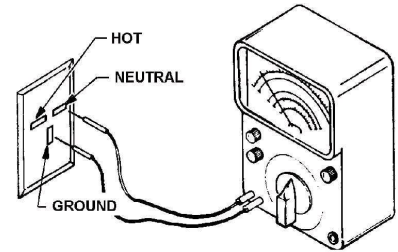

Figure 1. 230 Volt Outlet
1. **Voltage Check:** With a Volt-Meter set to check AC line voltage, insert one connector to the Hot terminal and the other connector to the **NEUTRAL** terminal. The voltmeter should indicate 207 to 253 Volts AC. See Figure 1.
2. **Polarity and Ground Check:** With a Volt-Meter set to check AC line voltage, insert one connector to the HOT terminal and the other connector to the **GROUND** terminal. The voltmeter should indicate 207 to 253 Volts AC. See Figure 1.
NOTE The GROUND pin is the slot that is positioned perpendicular to the other two slots. In a standard three (3) prong 230 volt wall outlet the NEUTRAL pin is located counter-clockwise from the ground pin and the HOT pin is located clockwise from the ground pin. See Figure 1.